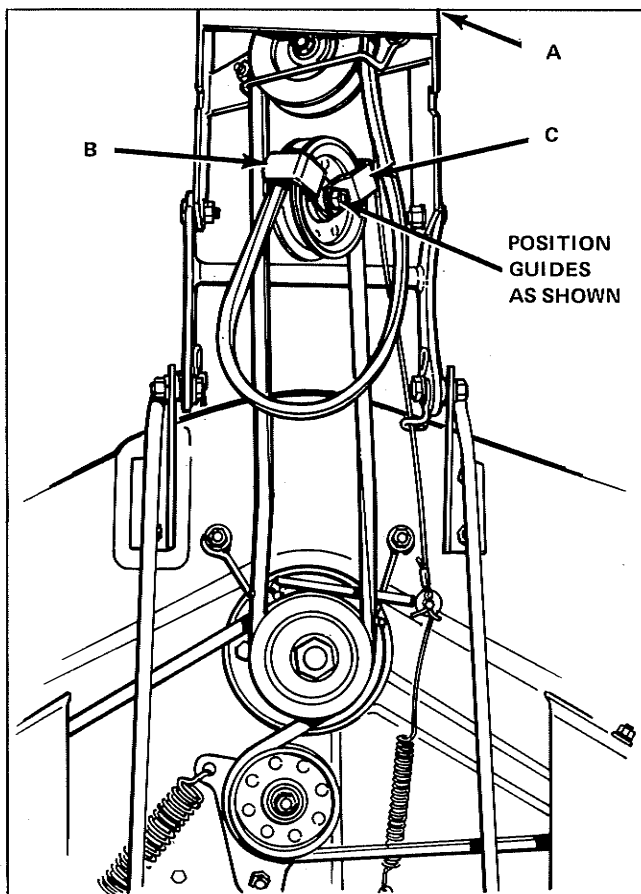

Figure 27. 42" Mower Belt Replacement
2. Loosen, but do not remove the two capscrews holding the front cover onto the mower hitch (Item A, figure 27). Remove front cover.
4. Remove the old belt from center arbor pulley and the idlers. Replace with a new belt of proper size and type, available from your dealer. Make sure the belt is properly twisted, as shown in figure 27.
5. Replace belt guides (items B and C) on idler pulleys. Position belt guides as shown in figure 27.